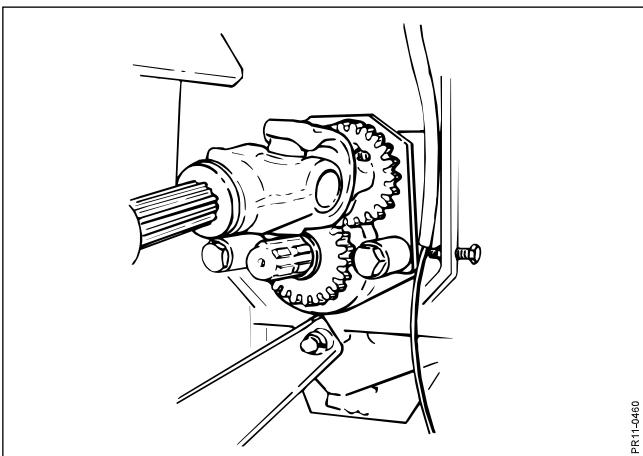

Fig. 4-28
- Fig. 4-28** 4. Mount the PTO drive shaft for the rotor on the free pin on the rotor housing.